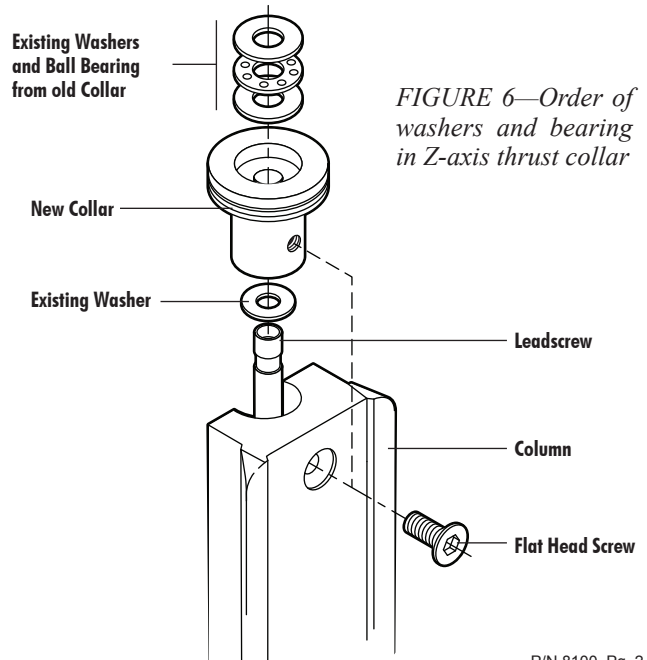

FIGURE 6—Order of washers and bearing in Z-axis thrust collar
- leadscrew. If the spacer washer sticks to the bottom of it, remove it and reinstall it on the leadscrew shaft. Then remove the ball bearing thrust and two washers from the collar and reinstall them in the new Z-axis thrust collar in the same order. (See Figure 6.) Install the new collar on the leadscrew shaft and secure it to the bed with the flat head screw.